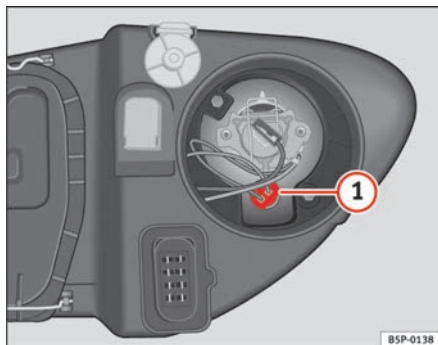

Fig. 169 Side lights
- Extract the lamp holder ⇒ fig. 169 ① outwards.